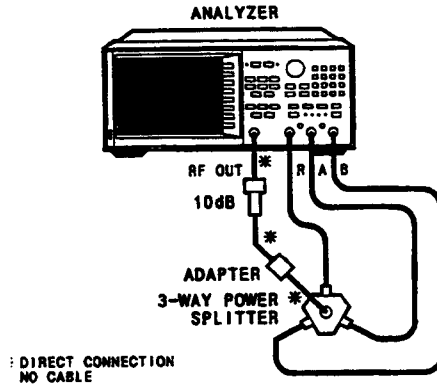

Figure 6. Trace Noise Test Setup
1. Connect the equipment as shown in Figure 6 and press **[PRESET] [MENU] [POWER] [1] [0] [x1] [MENU] [NUMBER of POINTS] [1] [6] [0] [1] [x1] [CW FREQ] [3] [G/n]** to set up the instrument. Then press **[MKR FCTN] [STATS ON]** to enable marker statistics.